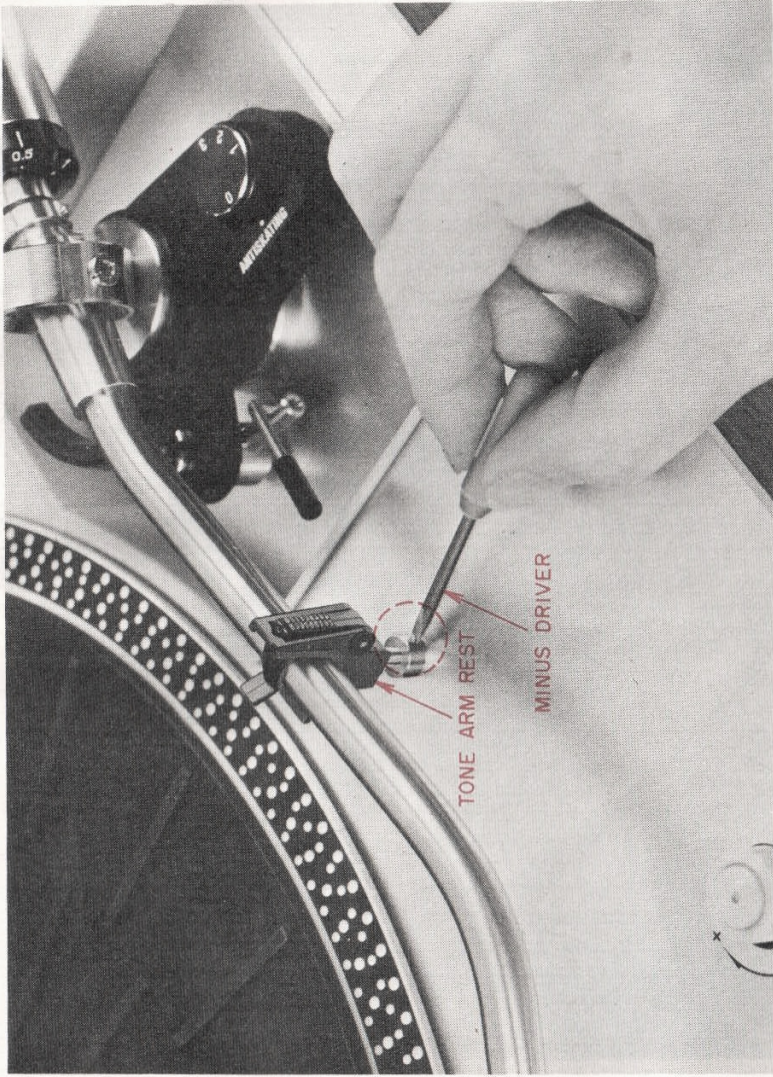

Fig. 7
#### 4. TONE ARM REST HEIGHT ADJUSTMENT (Refer to Fig. 7)
- 1) As shown in Fig. 7, loosen arm rest fixation screw with a minus driver.